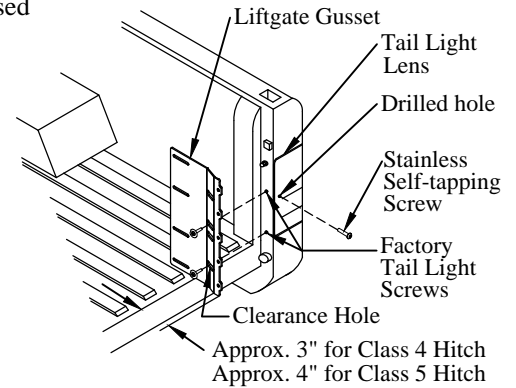

Figure 6: Tail light modification detail (if needed).
- 1. Remove** the two (2) factory tail light screws from each tail light lens (Figure 6).
- Carefully **Drill** a 9/64" hole through each tail light lens and internal sheet metal (Figure 6).